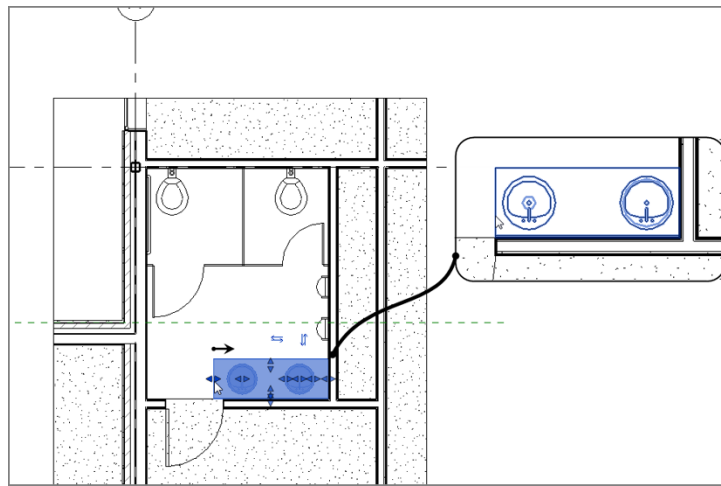

FIGURE 9.44: Placing the double sink
3. Place it in the corner, as shown in Figure 9.44.
5. Click the leftmost stretch grip, and slide the sink to be flush with the door opening (see Figure 9.44).